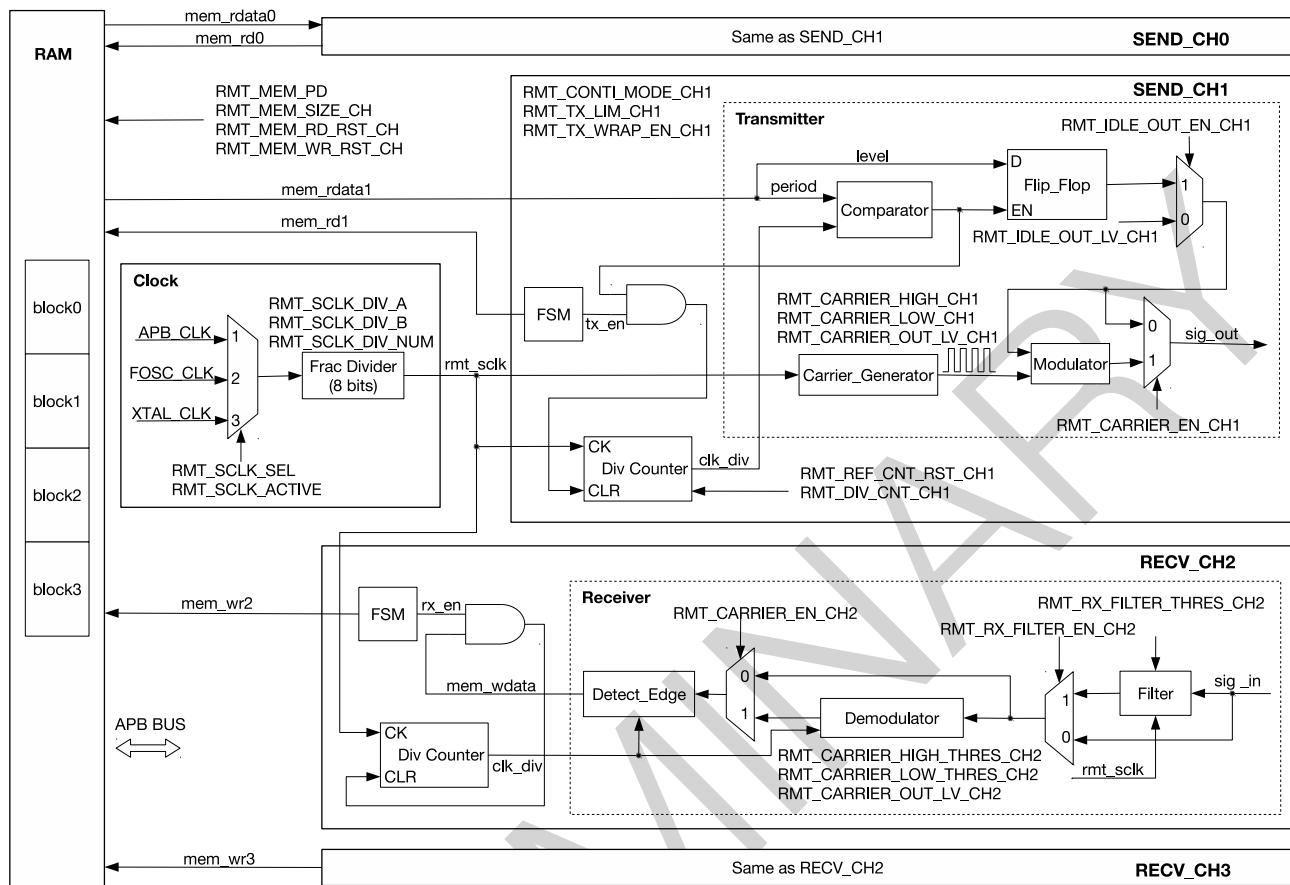

Figure 31-1. RMT Architecture
- Period: points out how many clk_div clock cycles the level lasts for, see Figure 31-1.
The clock source of RMT can be APB_CLK, FOSC_CLK or XTAL_CLK, depending on the configuration of RMT_SCLK_SEL. RMT clock can be enabled by setting RMT_SCLK_ACTIVE. RMT working clock (rmt_sclk) is obtained by dividing the selected clock source with a fractional divider, see Figure 31-1. The divider is:
RMT_DIV_CNT_CH n/m is used to configure the divider coefficient of internal clock divider for RMT channels. The coefficient is normally equal to the value of RMT_DIV_CNT_CH n/m , except value 0 that represents coefficient 256. The clock divider can be reset by clearing RMT_REF_CNT_RST_CH n/m . The clock generated from the divider can be used by the counter (see Figure 31-1).